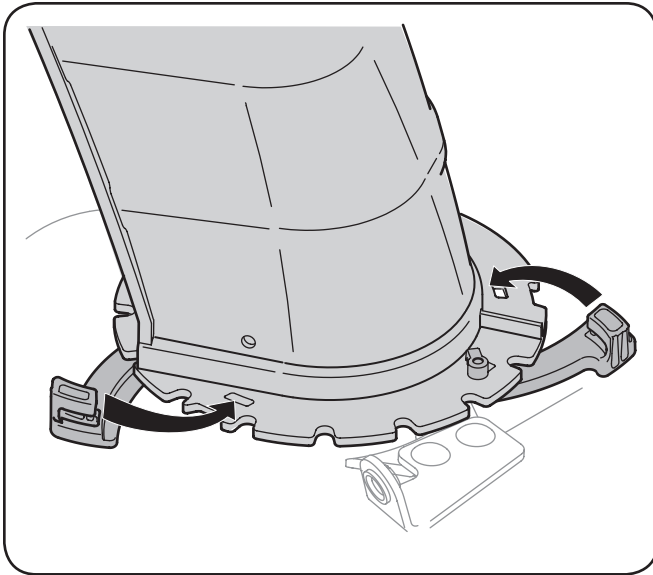

Figure 3-4
2. Close the flange keepers to secure the chute assembly to the chute base. The flange keepers will click into place when properly secure. See Fig. 3-4.